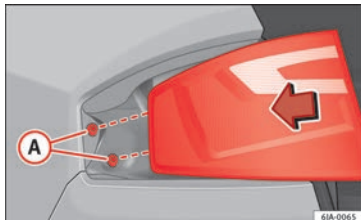

Fig. 157 Fit the tail light unit.
- Press the rear light unit backwards (driving direction) by fitting the fastenings into the rubber mountings »» **Fig. 157 A**.